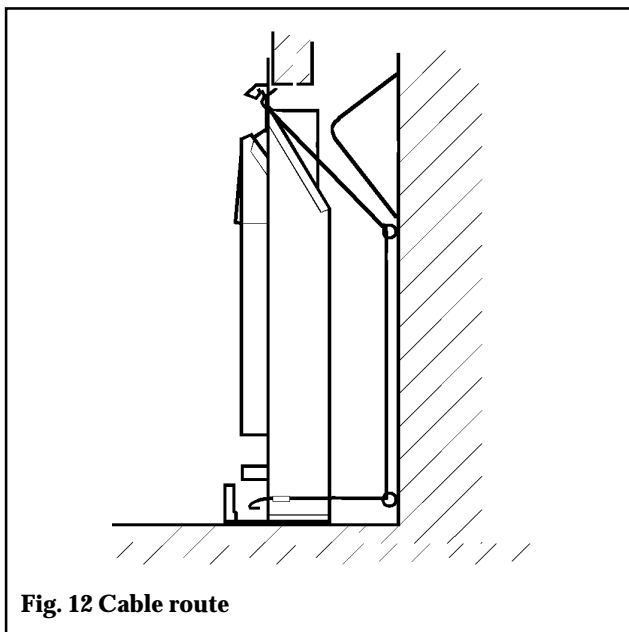

Fig. 12 Cable route
7.2.5 Thread the cables through the upper eyebolts in the rear wall and then through the lower eyebolts. Return the cables through the holes near the bottom of the convection box back panel and through the “V” shaped brackets near the bottom front sides of the convection box (see figure 12).